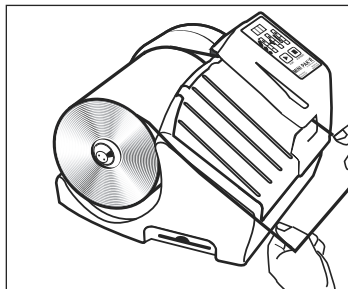

Figure 5
- **To advance film automatically:** Pull film down the air fill tube until it stops. (See Figure 5)